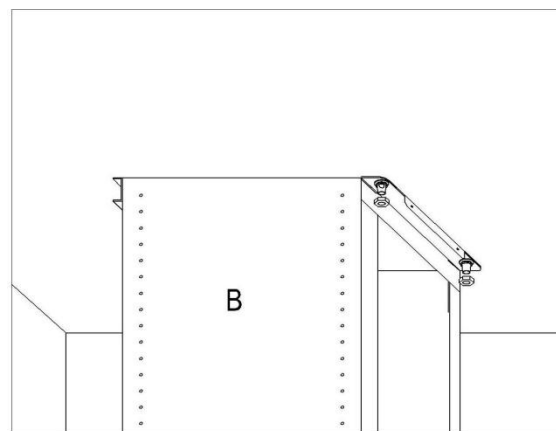

Fig. 3
- Take the upper part of the structure **B** and insert the 3 slots onto the 3 screws that are not completely tightened. (Fig3)